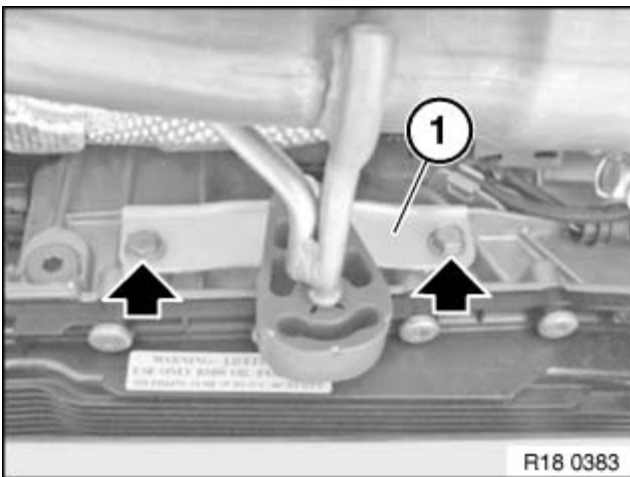

Fig. 18: Locating Screws And Holder (1)
Release screws and remove holder (1). See Fig. 18.